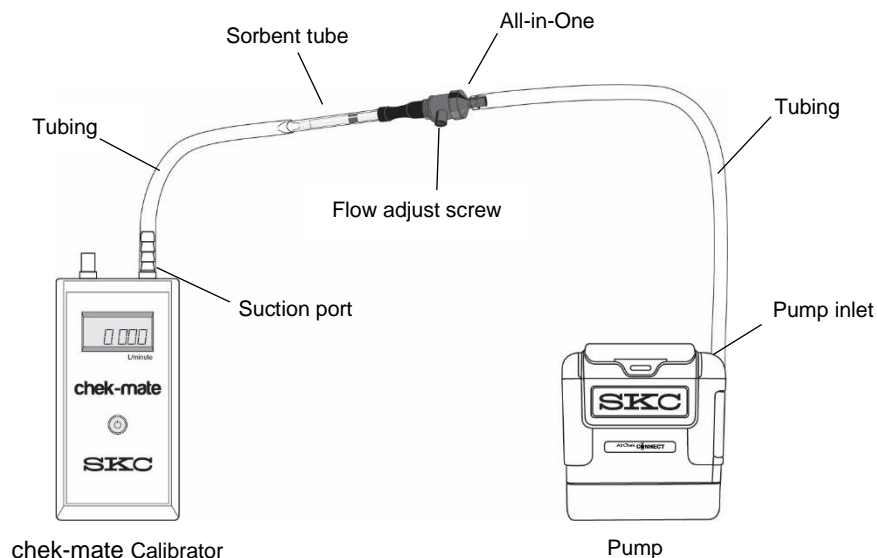

Figure 4. Calibration Train (5 to 500 ml/min) for Single Tube — Constant Flow
1. On the tube holder, insert an opened representative sorbent tube (arrow on tube pointing toward the pump) into the rubber sleeve on the port. See *Figure 4*.
Connect the calibrator to the single sorbent tube or the first of multiple sorbent tubes as shown in Figures 4 and 5, respectively.